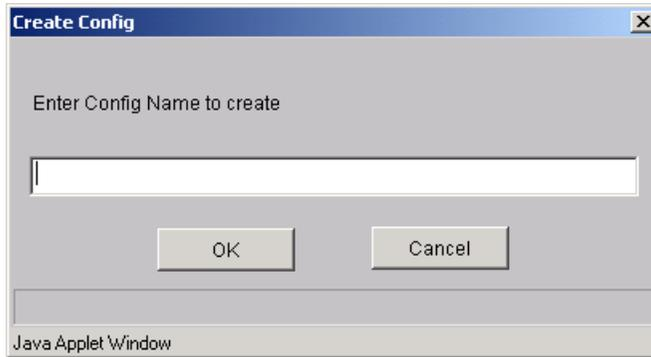

Figure 4-16 Create Config window
- Click **Create Cfg** to display the pop-up shown in Figure 4-16: